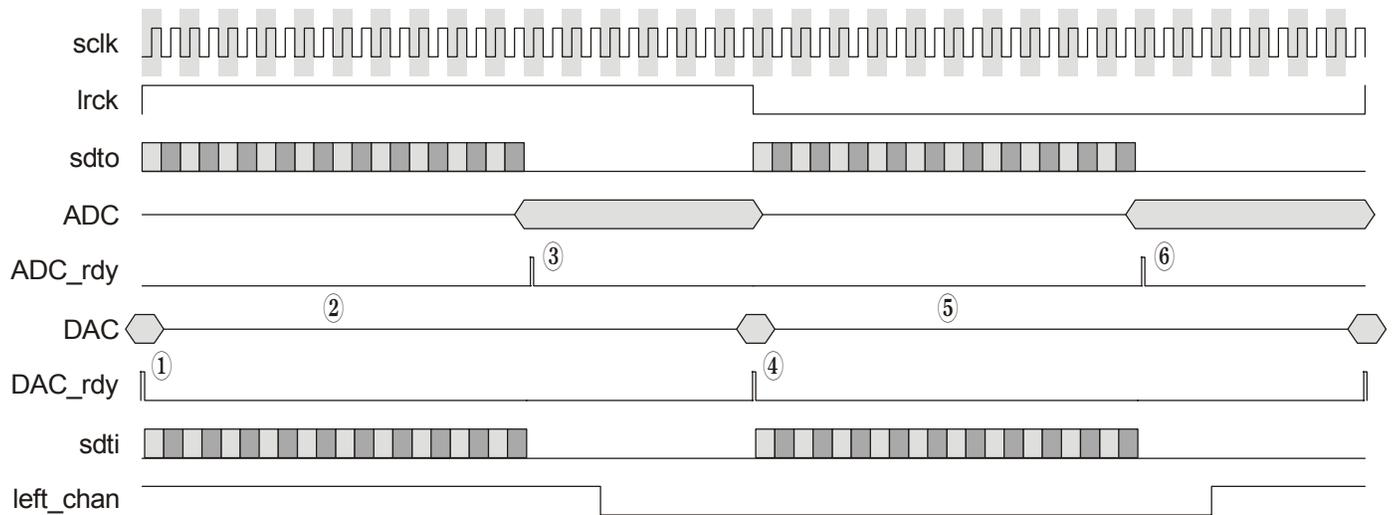

Figure 2: Codec interface waveforms for the XST-1.3.X, XST-2.0.X and XSB-300E Boards.
The timing waveforms for the codec interface when used with an XST-1.3.X, XST-2.0.X or XSB-300E Board are shown in Figure 2. At ①, DAC\_rdy goes high to signal that data for the left-channel DAC is needed (as indicated by left\_chan being high). The data must be presented on the DAC bus before the next rising edge on clk (not sclk). The value is shifted out MSB-first on sdti during interval ②. During the same interval, the data from the left-channel ADC is received through sdto. ADC\_rdy goes high at ③ to